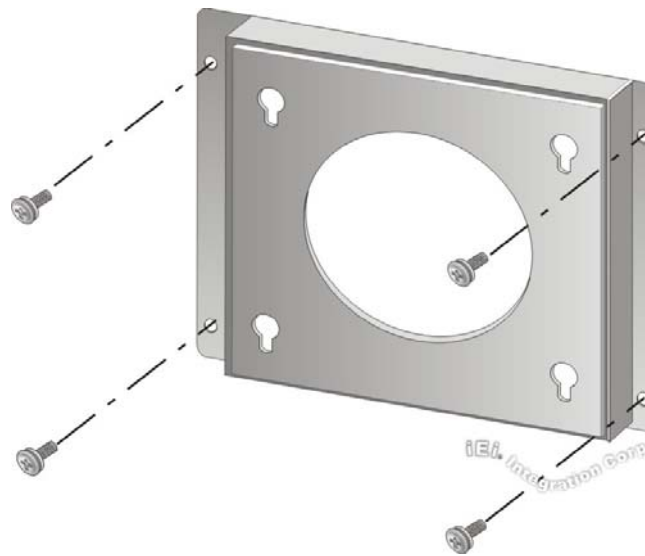

Figure 3-22: Wall-mounting Bracket
Step 5: Secure the mounting bracket to the wall by inserting the retention screws into the four pilot holes and tightening them (**Figure 3-22**).